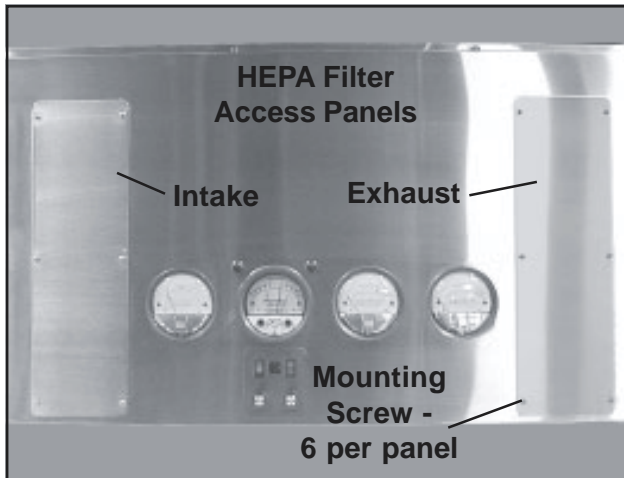

Figure 57. HEPA Filter Access Panels
There are two HEPA filter access panels on the front panel: one for the intake blower, and one for the exhaust (Figure 57). The access panels are identical and either can be used for either function. The procedure for replacing a HEPA filter access panel is the same for both.
1. With a Phillips screwdriver, unscrew the six mounting screws on the access panel (Figure 57) and remove the panel.